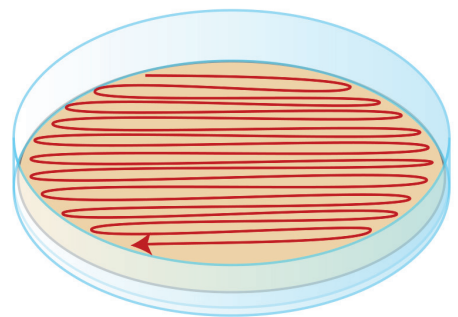

Fig. 16
16. Streak the whole agar plate “A3” in a zigzag pattern (Fig. 16).